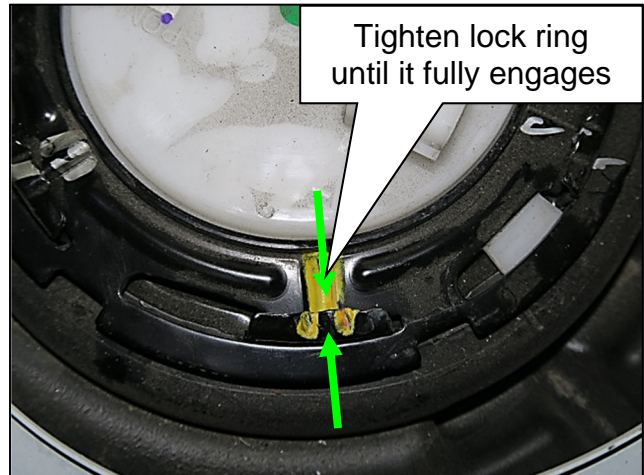

Figure 26
- Turn the Fuel Pump Assembly lock ring, until it fully engages the fuel tank (Figure 26).